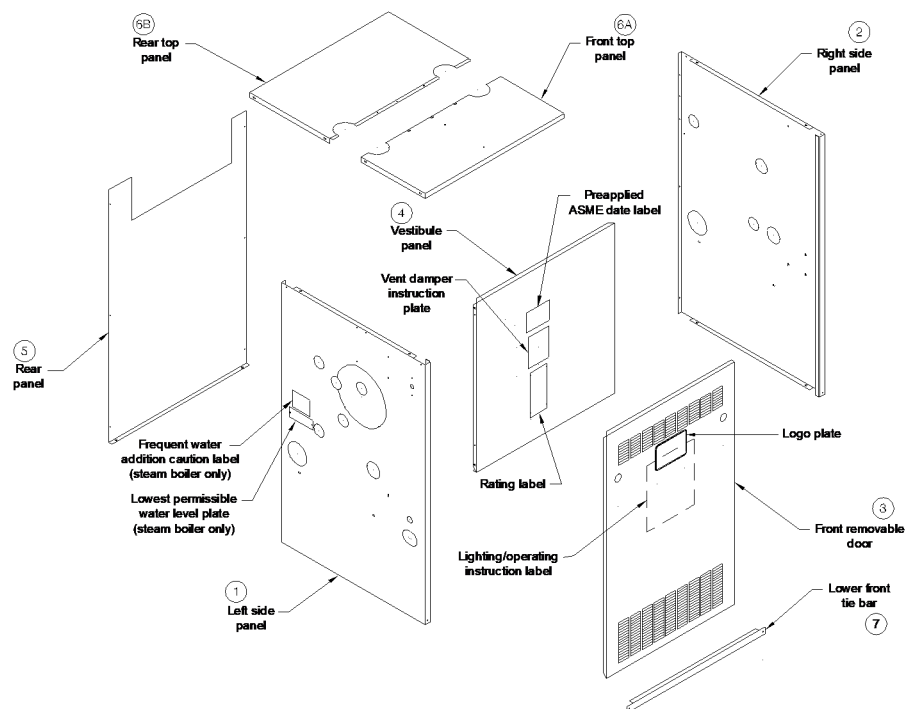

Figure 9: Jacket Assembly
- h. Attach "Lowest Permissible Water Level" Plate with sheet metal screws in location indicated in Figure 9.
- e. Attach "Lowest Permissible Water Level" Plate with sheet metal screws in location indicated in Figure 9.